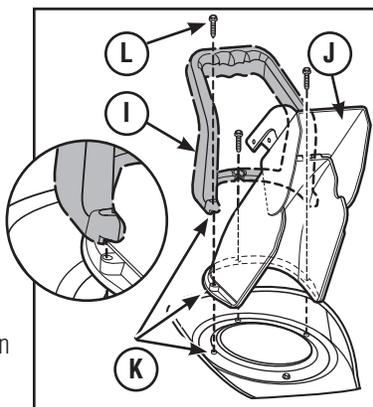

Figure 7
1. Insert rotation handle (optional) (I, Figure 7) onto chute assembly (J) matching up the three holes (K). Ensure recesses seat into place. See Figure 7 inset.